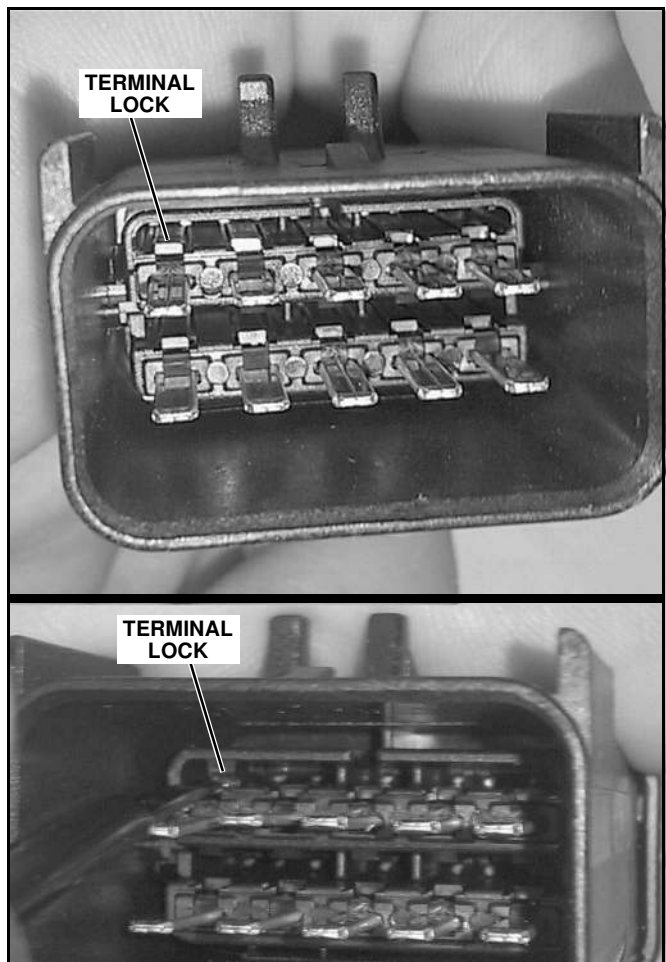

Figure 3
- Lift up the terminal lock in the Black connector for each terminal and pull the wire out, then place it into the Gray connector. (See Figure 3.)